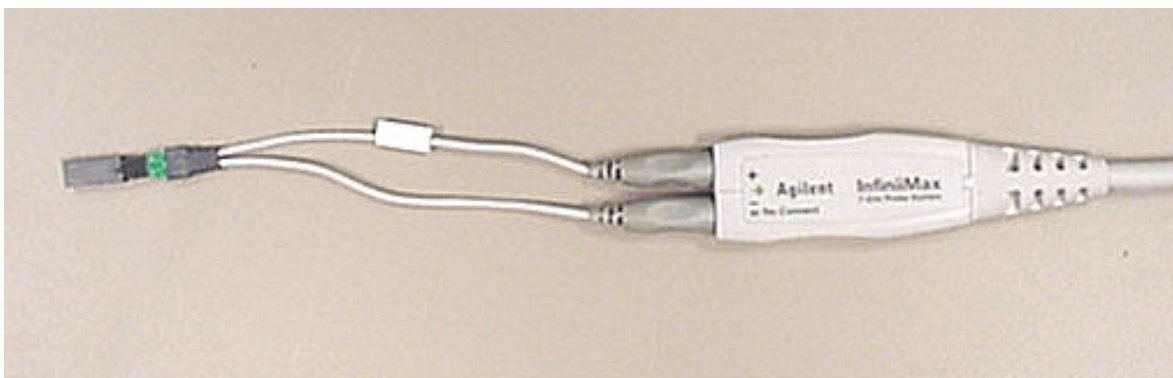

Figure 1. Differential Probe Setup
- a. Attach the header adapter to the socketed probe head, see Figure 1.